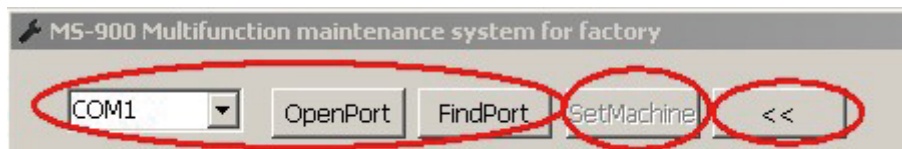

figure 1
2. Click FindPort, Software search port and connect device automatically, click Close to close the connection. (figure 1)